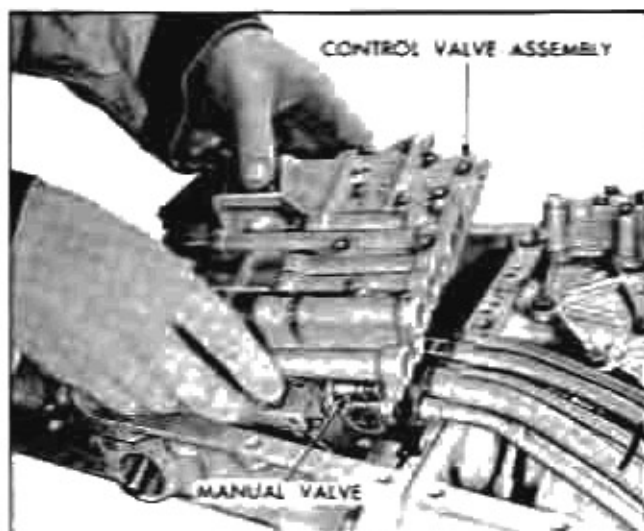

Fig. 131 Installing Control Valve Body
1. Install manual valve in valve body (Fig. 131).
2. Apply petrolatum to valve body pipe ports so not to injure "O" rings and install valve body assembly to rear bearing retainer, guiding T.V. shaft through opening in rear bearing retainer and position manual valve on pick up pin (Fig. 131). Position pipe assembly to index with pipe ports in valve body and move forward to seat pipe seals. Secure valve body assembly with 5 attaching bolts. Torque to 6-8 ft. lbs. If it is difficult to index pipes with valve body ports, loosen the pipe assembly to case cover bolt one-half turn.